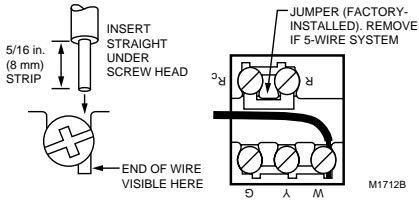

Fig. 8. Correct wiring technique.
1. Connect the system wires to the thermostat. See Fig. 8. A letter code is located near each terminal for identification.